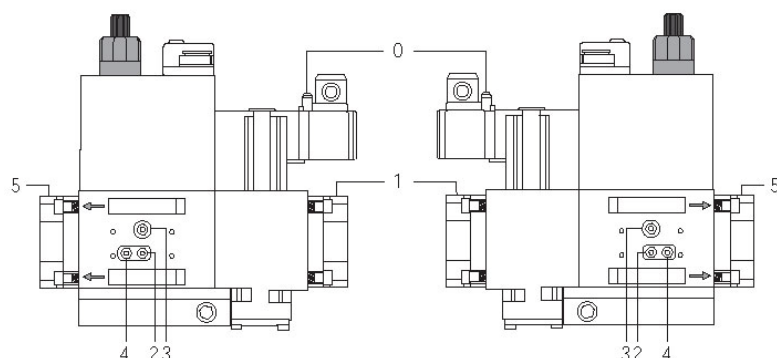
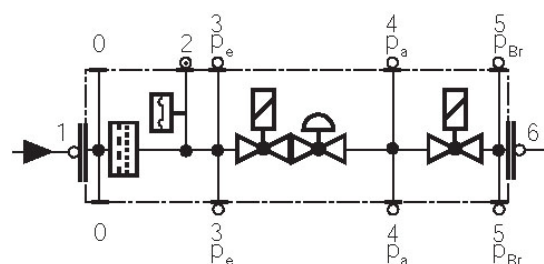

Fig. 18
Fig. 19
- Change the filter if the pressure difference between pressure connection 1 and 2 (Fig. 18-Fig. 19)  $\Delta p > 10$  mbar.
- Change the filter if the pressure difference between pressure connection 1 and 2 (Fig. 18-Fig. 19) is twice as high compared to the last check.